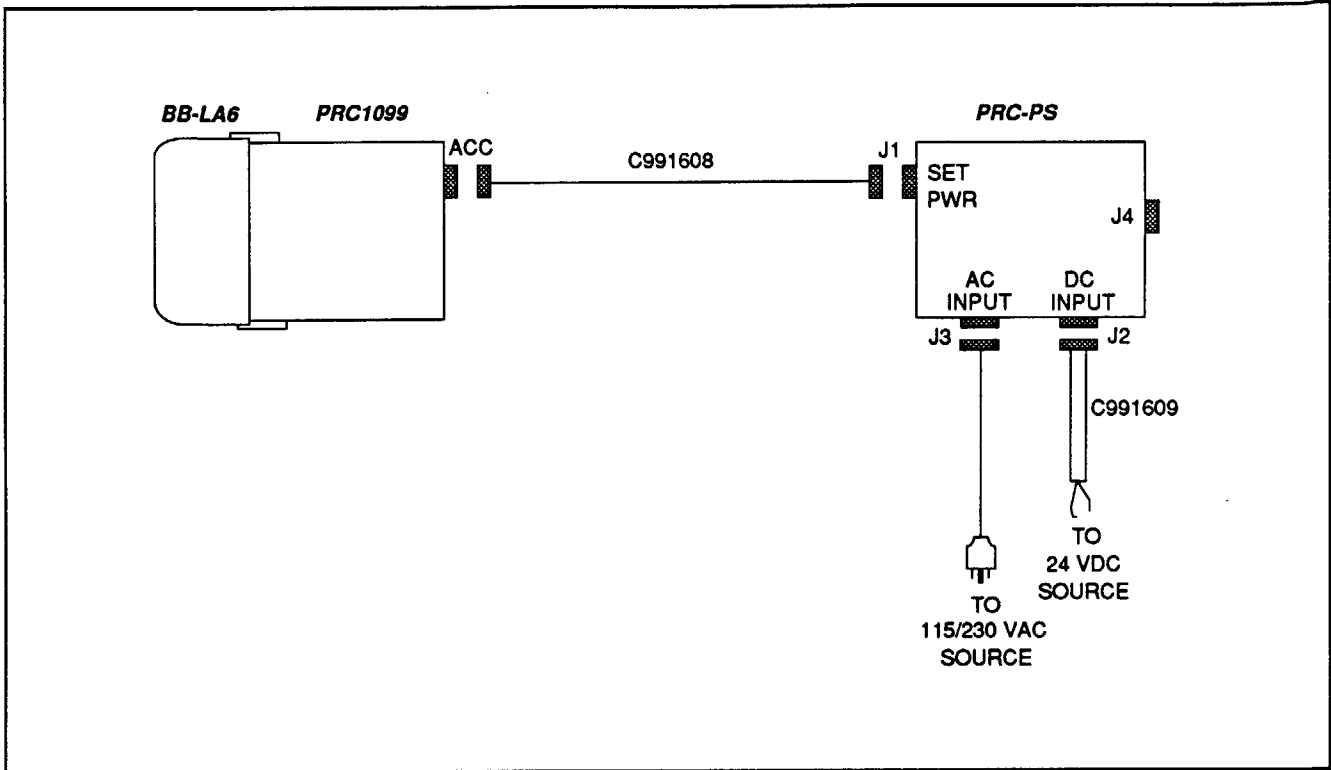

FIGURE B-1.
1. Attach the transceiver with its battery to the PRC-PS as shown in Figure B-1.